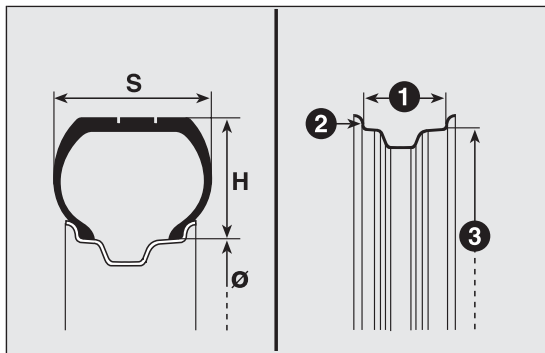

fig. 219
### Example fig. 219: 195/65 R 15 91T
**81** = 462 kg      **105** = 925 kg**82** = 475 kg      **106** = 950 kg**83** = 487 kg**CORRECT READING OF THE WHEEL RIM****Example fig. 219: 6 J x 15 ET 31.5****6** rim diameter in inches (1).**J** rim drop centre outline (side projection where the tyre bead rests) (2).**15** rim nominal diameter in inches (corresponds to diameter of the tyre to be mounted) ( $3 = \emptyset$ ).**H2** shape and number of humps (circumference measurement which keeps the bead of Tubeless tyres in position on the rim).**ET 31.5** wheel camber (distance between the disc/rim support plane and the wheel centre line).